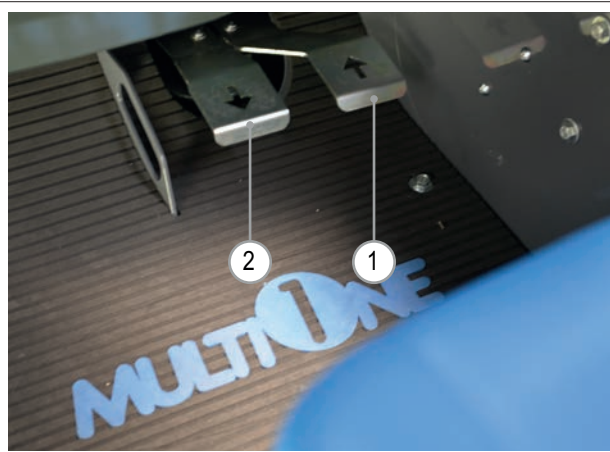

FIG. 25
- 4) Press the pedal relative to the direction of **“Forward”** (FIG. 25 - Ref. 1) or **“Reverse”** (FIG. 25 - Ref. 2).